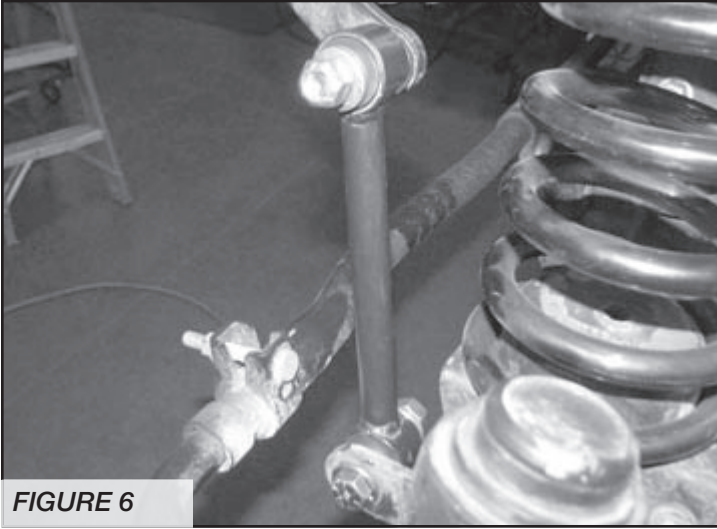

FIGURE 6
8. Locate FT50261BK Front Sway Bar End links, FT50048 & FT50089 bushing and sleeve kits. Press one bushing and one sleeve from the supplied bushing kit into each end of the end link. With the factory hardware, connect the new end link to the sway bar, then using the supplied $\frac{1}{2}$ " x $2\text{-}3/4$ " bolt, nut and washers, connect to the lower sway bar mount. Torque the upper hardware to 40 ft-lbs. and the lower hardware to 75 ft-lbs. SEE FIGURE 6